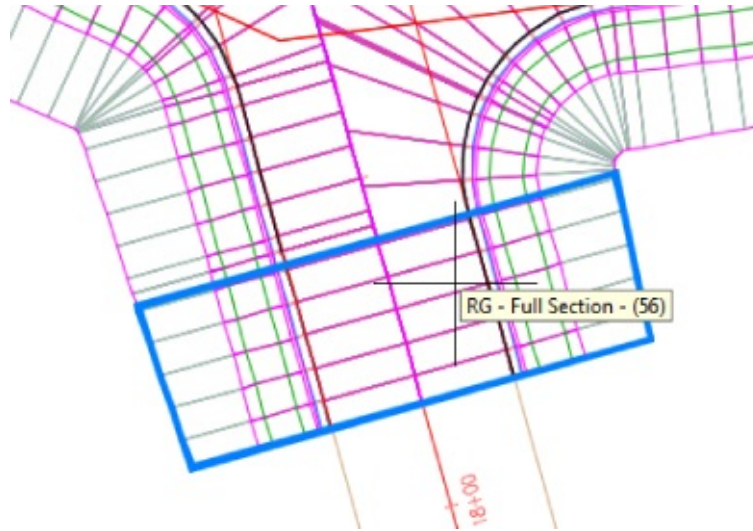

Figure 10.36 Selecting the RG - Full Section region along ROAD B south of the intersection
34. Select the RG - Full Section region in the south part of the intersection along ROAD B, as indicated by Figure 10.36.